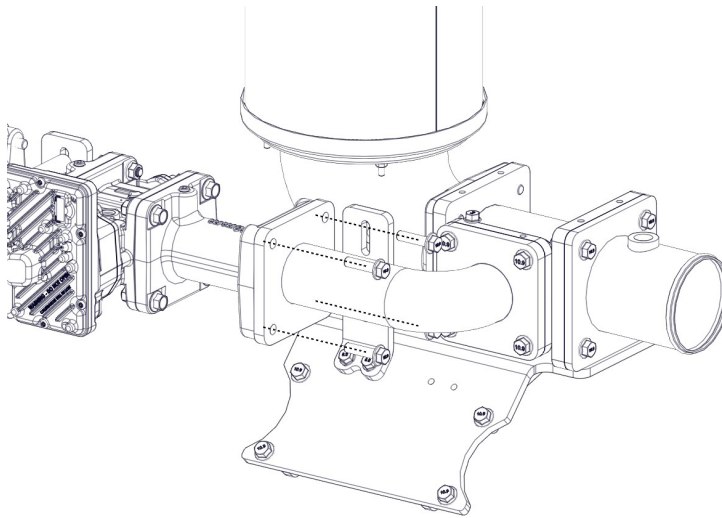

Figure 26.
4. Remove the four bolts from the MFG Valve leading into the adapter (Figure 26).